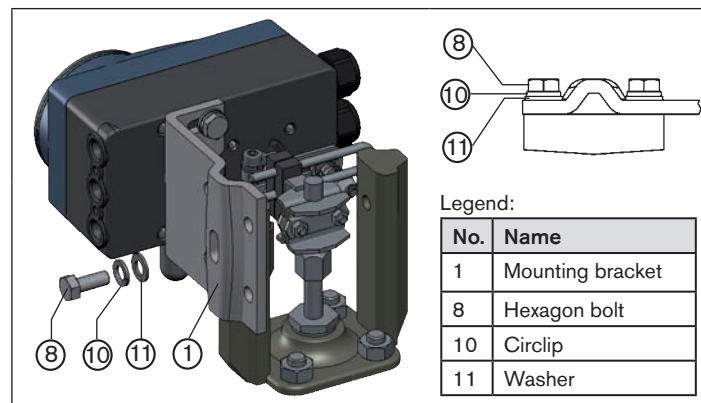

Fig. 10: Attach Type 8792/8793 with mounting bracket; for actuators with cast frame
→ Attach mounting bracket to the cast frame with one or more hexagon bolts ⑧, washers ⑪ and circlips ⑩ (see „Fig. 10“).